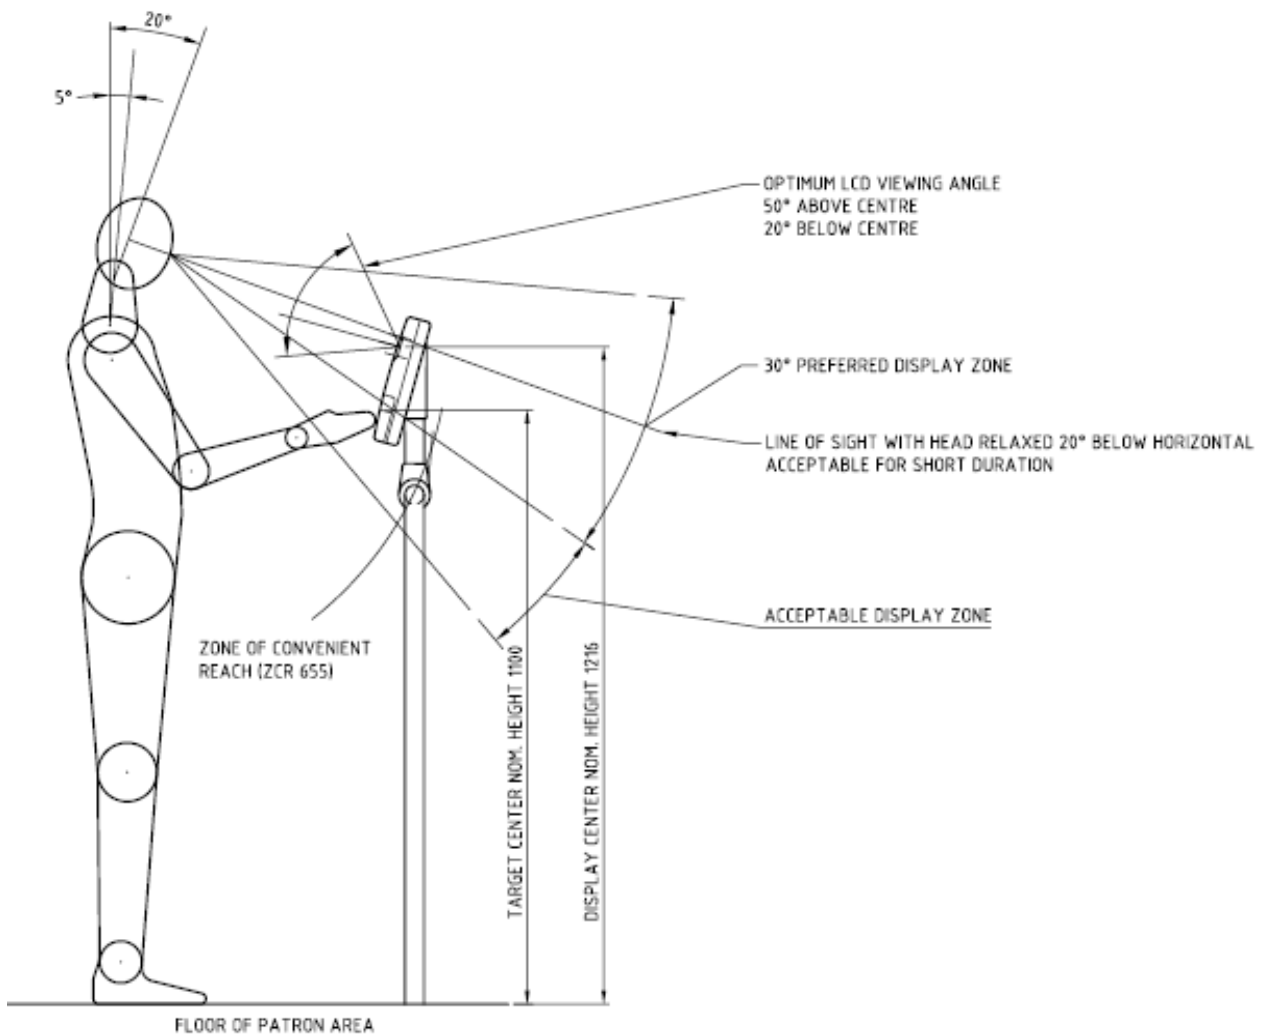

Figure 11: Compact Validator Positioning – Height
- The Compact Validator should be located within easy reach of patrons as shown in Figure 11.